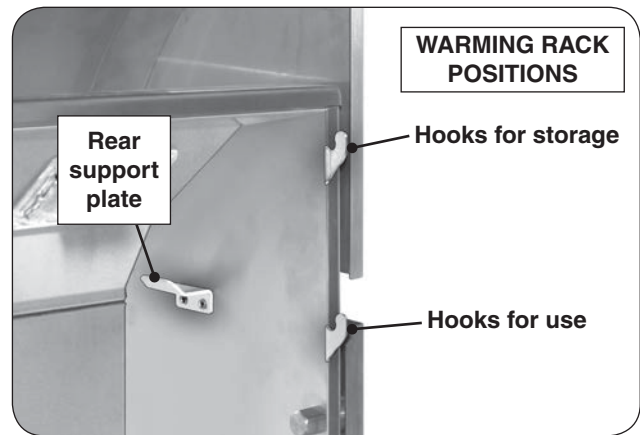
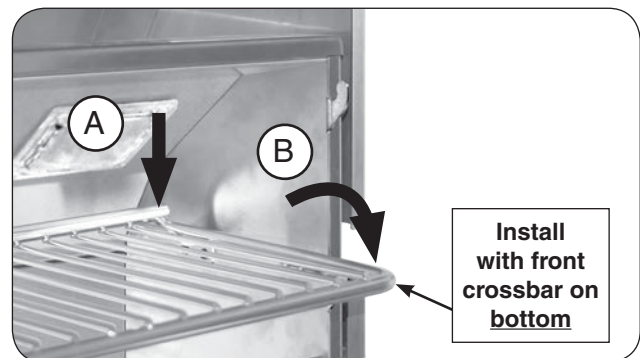
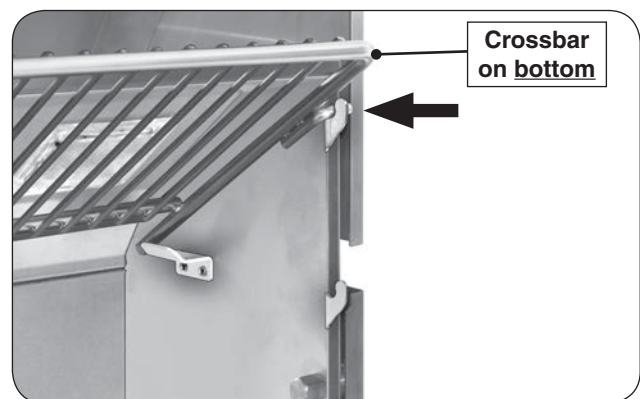

Fig. 20-1 Warming rack hooks
Fig. 20-2 Place warming rack for use
Fig. 20-3 Place warming rack in storage position
1. Locate the warming rack hooks and rear supports found on the upper portion of the grill oven (see Fig. 20-1).
2. With the warming rack oriented as shown, carefully rest the rear of the rack onto the rear support plates (Fig. 20-2, A), then rest the warming rack arms onto the two lower hooks for use (Fig. 20-2, B). Use the top hooks for storage (see Fig. 20-1 and Fig. 20-3).